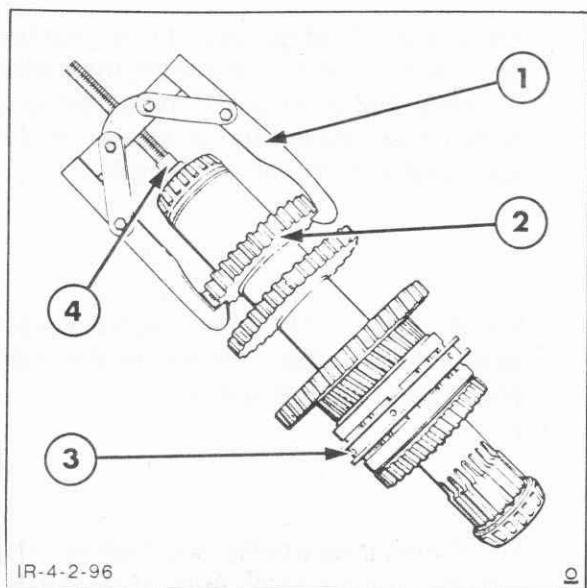

Figure 4-191
1. Attach a puller, Tool #1003 or FNH09516 with shaft protector, Tool 625A or FNH09212 to the gear cluster as shown in Figure 4-191, and remove the front bearing, thrust bearing and thrust washer from the shaft.